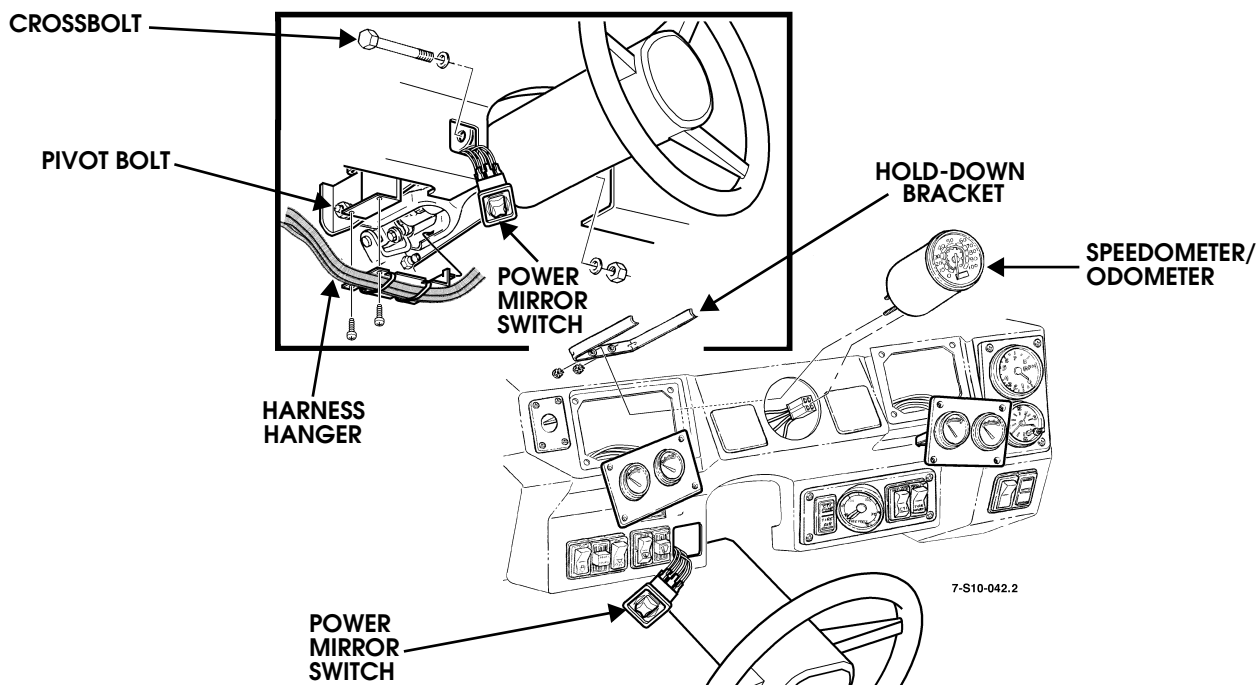

Figure 10-21: Speedometer/Odometer Replacement
1. Insert speedometer/odometer into instrument panel and secure with hold-down bracket, electrical connector, and nut and lockwasher assemblies (Figure 10-21).